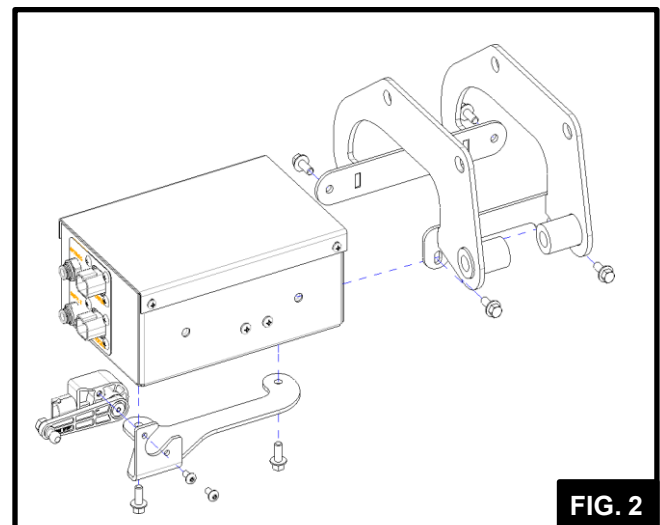

FIG. 2
Mount the control box to the cab bracket using the (4) 1/4 X 5/8 flange head bolts provided (FIG.2).
Mount the height control sensor bracket to the control box using the (2) 1/4 X 5/8 flange head bolts provided (FIG.2).
Mount the height control sensor to the bracket on the control box using the (2) M5 X10mm screws provided (FIG.2).